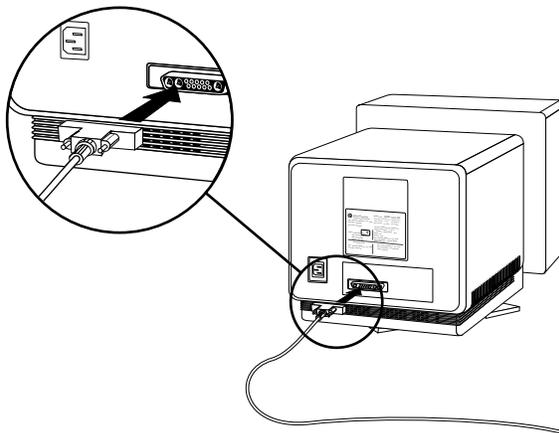

Figure 3-3 Connecting Monitor Cables to the Monitors
2. Connect one end of each monitor cable to the monitor connector on the back of each monitor, as shown in Figure 3-3. Connect and tighten the thumbscrews on both sides of the connector.